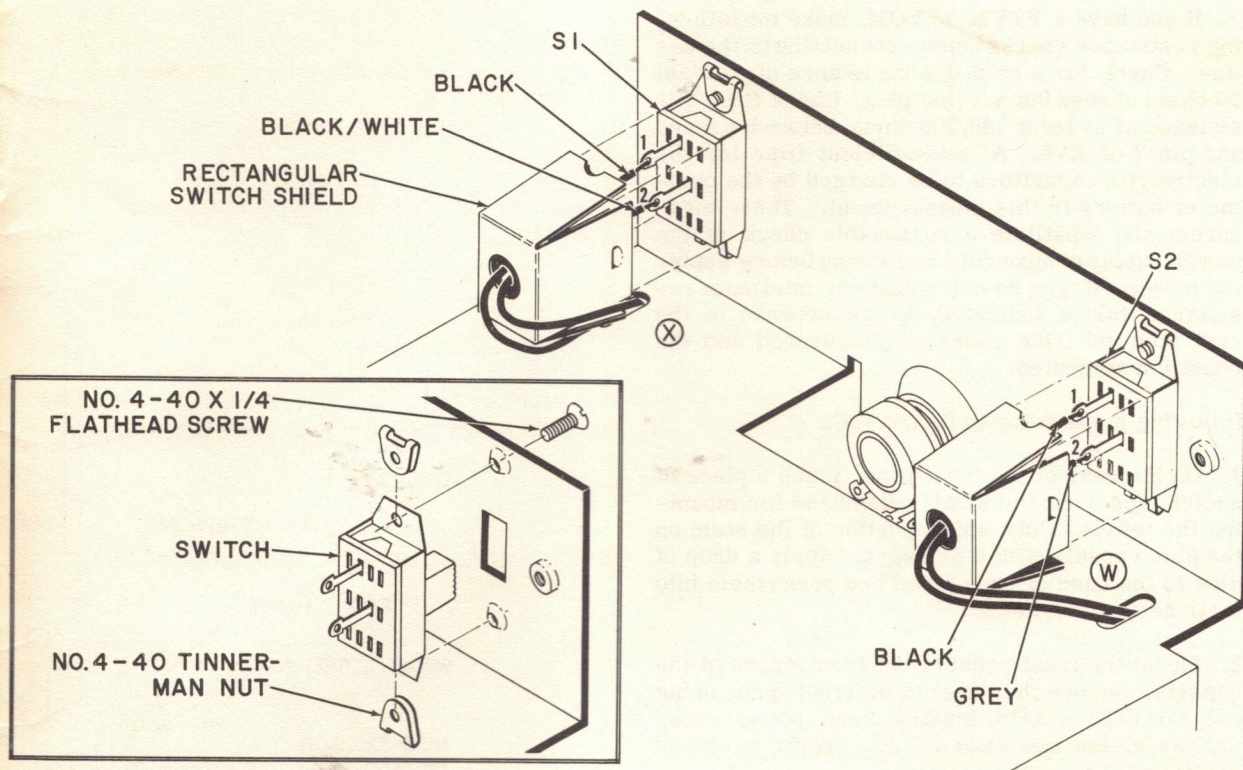

Figure 11C. Mounting and Wiring of Switches
- (✓) 2. Cut all leads on the .025 mfd capacitors, C18, C19 and C21, to 5/8". Connect C18 from XV3-6 (S3) to TB6-4 (C). Connect C19 from XV3-4 (S3) to TB4-3 (S4). Connect C21 from TB6-3 (S6) to TB6-4 (S3).
- (✓) 6. Snap the rectangular shield onto switch S2 as shown in figure 11c.
The following steps refer to figure 11c.
- (✓) 3. Snap the rectangular shield onto switch S1 as shown in figure 11c.